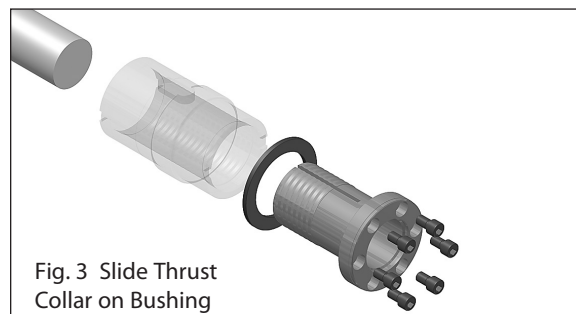

Fig. 3 Slide Thrust Collar on Bushing
Step 3 – Slide the thrust collar onto the Taper-Grip® bushing (see Fig. 3).